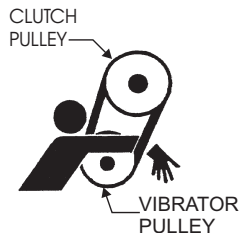

Figure 32. V-Belt Hazard
**NEVER** attempt to check the V-belt with the engine running. Severe injury can occur if your hand gets caught between the V-belt and the clutch (Figure 32). Always use safety gloves.